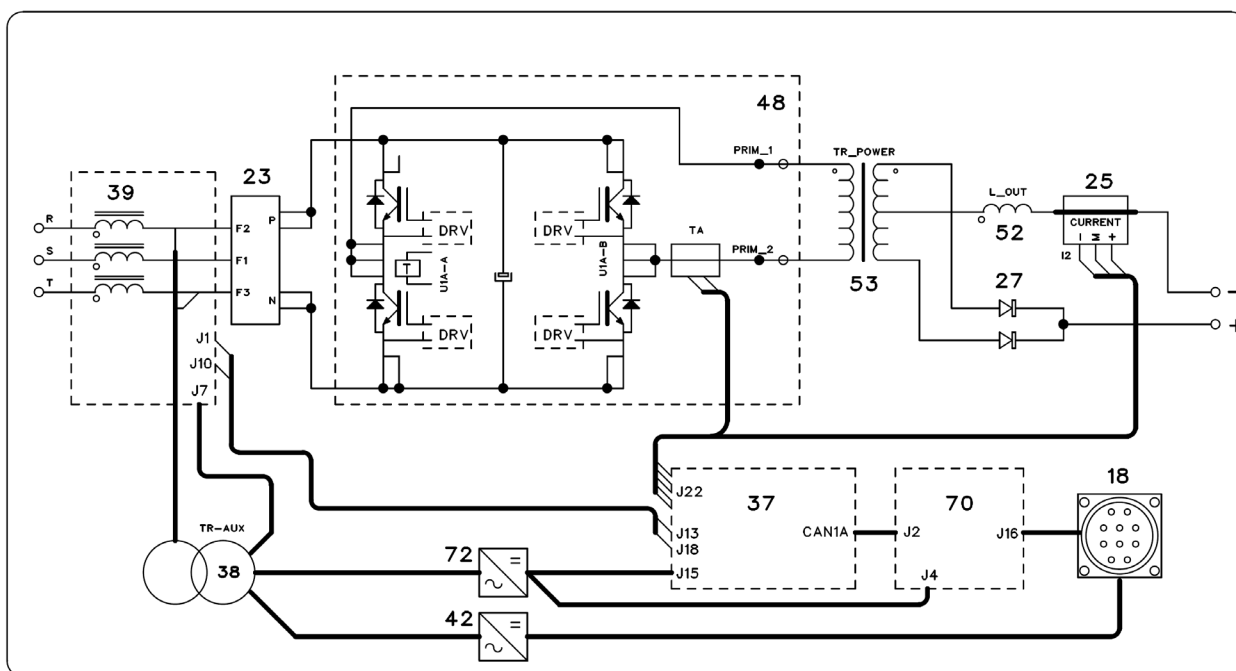

FIG. 2.3.1
Refer to the wiring diagram in section 5, the block diagram in fig. 2.3.1, the exploded view drawings and the tables in section 4 to identify the main blocks making up the power source.
Bridge rectifier (23) and power board (48) are the power elements of the first two converter stages. More specifically, fig. 2.3.1 identifies:
- three-phase bridge rectifier (23), which converts the alternating mains voltage (400 Vac) to direct voltage (540 Vdc) for powering the DC capacitors and the inverter;